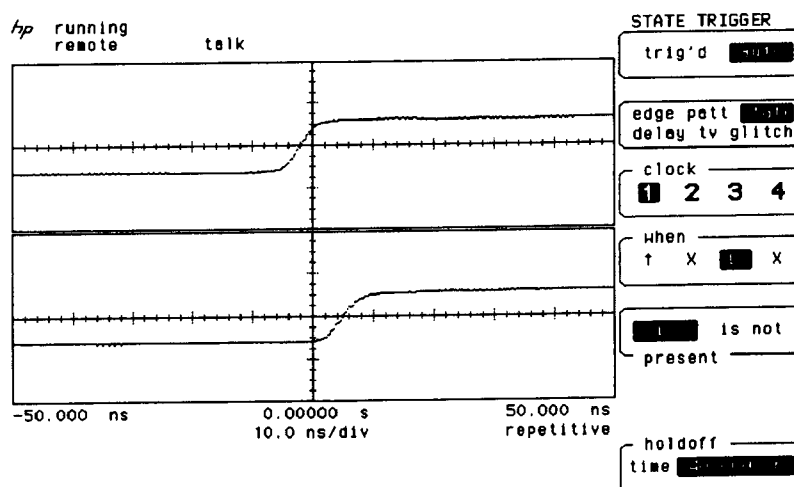

Figure 6-11. Channel 1 Clock XLX State
- Press the **when** key until **is present** is selected (see Figure 6-11).